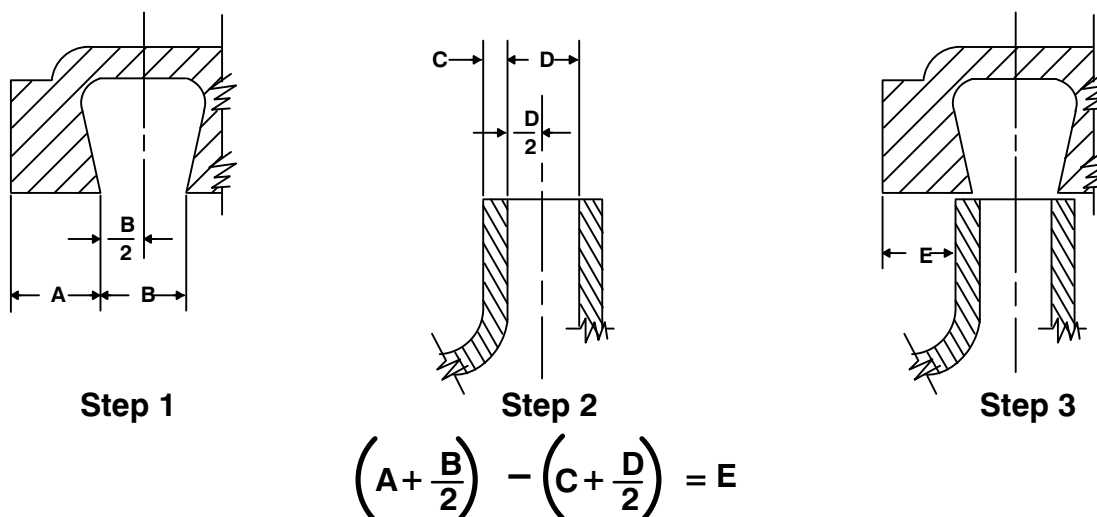

Figure 4. Centering Impeller Within Pump Casing
For maximum pump efficiency, the impeller must be centered within the volute scroll. To verify impeller positioning, measure the pump casing and impeller as shown in Figure 4. Use these measurements to calculate the required impeller location (dimension E). Add or remove impeller adjusting shims (21) to obtain dimension E.